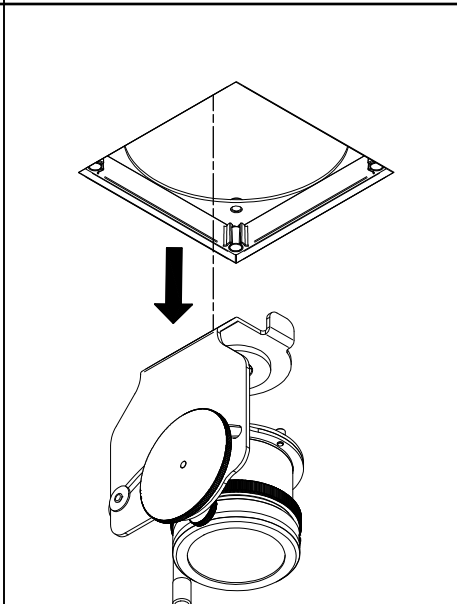

FIG. 2.6 Remove Lamp Module
Step 6 Orient Lamp Module so it can be pulled through ceiling aperture - Fig 2.6.